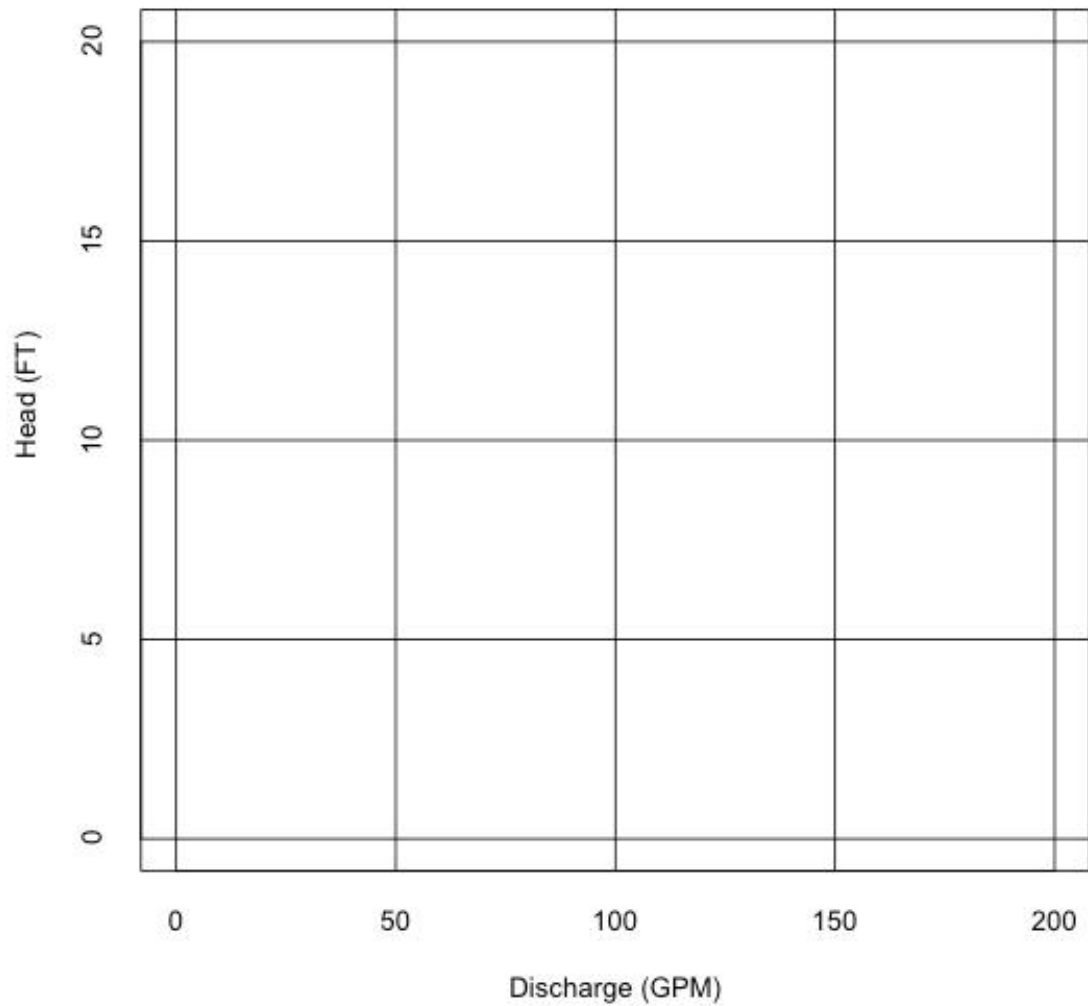

Figure 4: Pump Performance Curve
- i) Sketch and the pump curve on Figure 4 below.